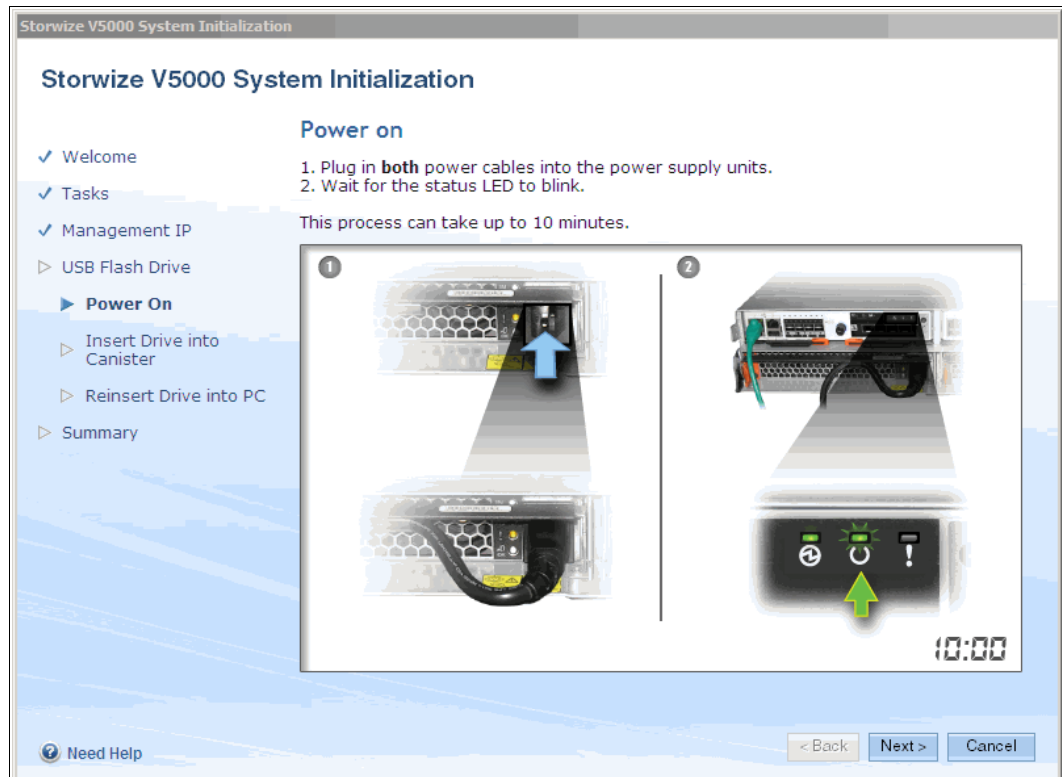

Figure 2-13 Initialization application: V5000 Power up
3. Click **Apply and Next** to display the IBM Storwize V5000 power up instructions, as shown in Figure 2-13.